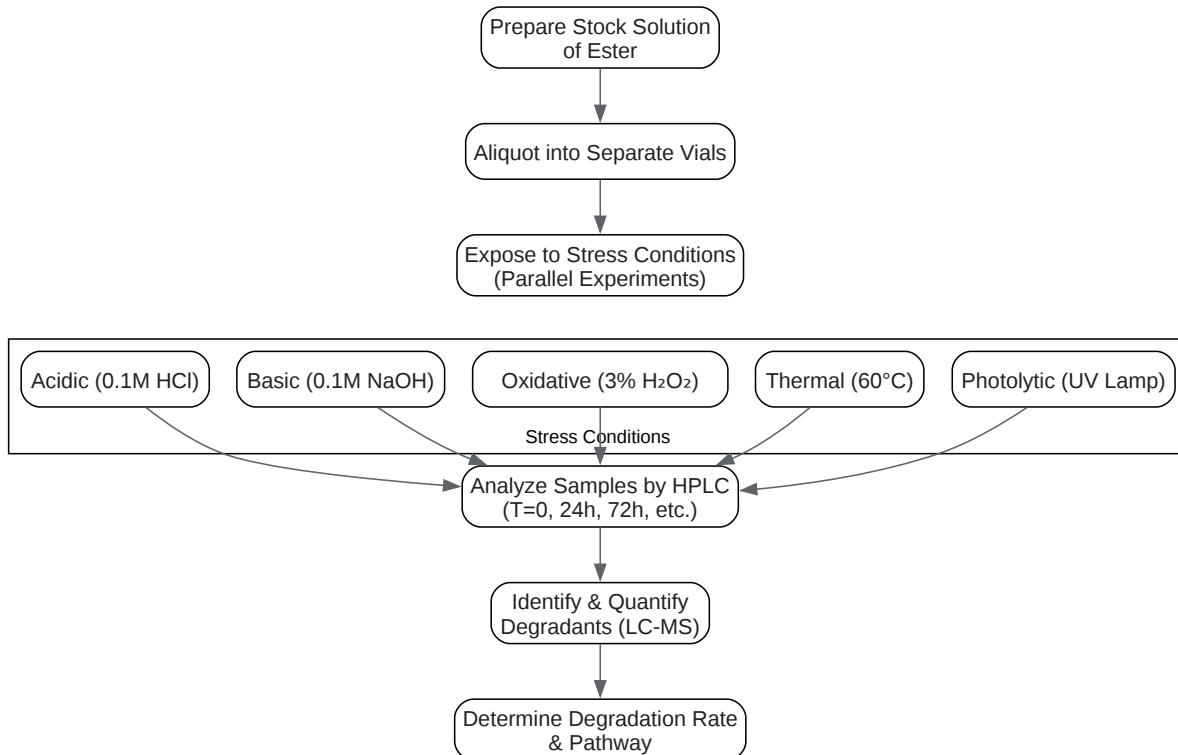

Figure 2: Workflow for a Forced Degradation Study
- **Prepare Stress Samples (as per Figure 2):**